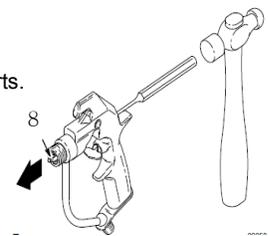

Fig.2
4. Insert a punch into the rear of the gun and tap it to push the needle(8), out the front of the gun. See Fig 2